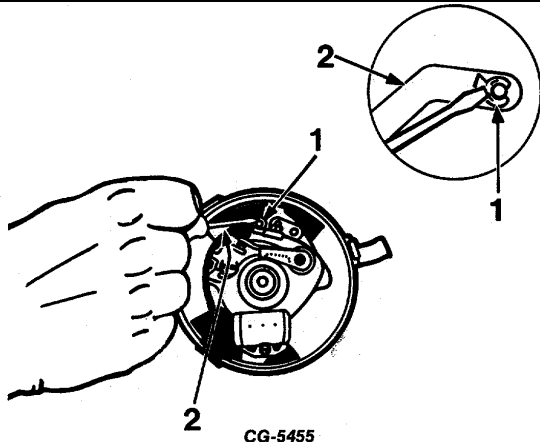

Fig. 8 Removing Diaphragm Rod Retainer
2. Remove vacuum advance diaphragm rod retaining "E" clip (Figure 8) and flat washer (where used).